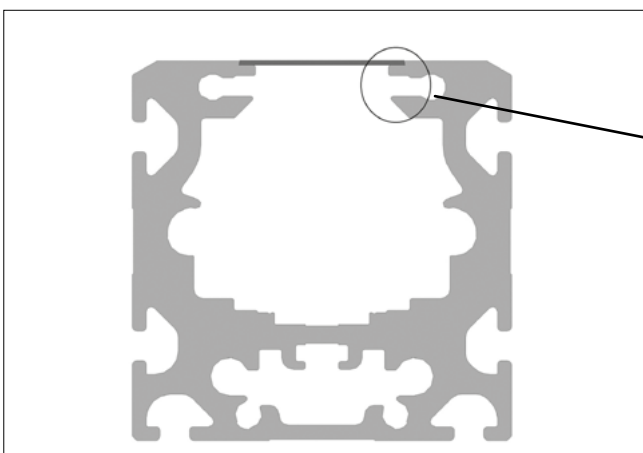

Figure 4.17 __ Cover strip cross section
5. Insert new cover strip. The cover strip has a trapezoidal cross-section. When fitting the new cover strip, make sure that the wide area is below (Figure 4.17). Under moderate pressure with the hand or a smooth, not sharp-edged tool, the cover strip snaps into the groove and flushes to the upper profile edge.